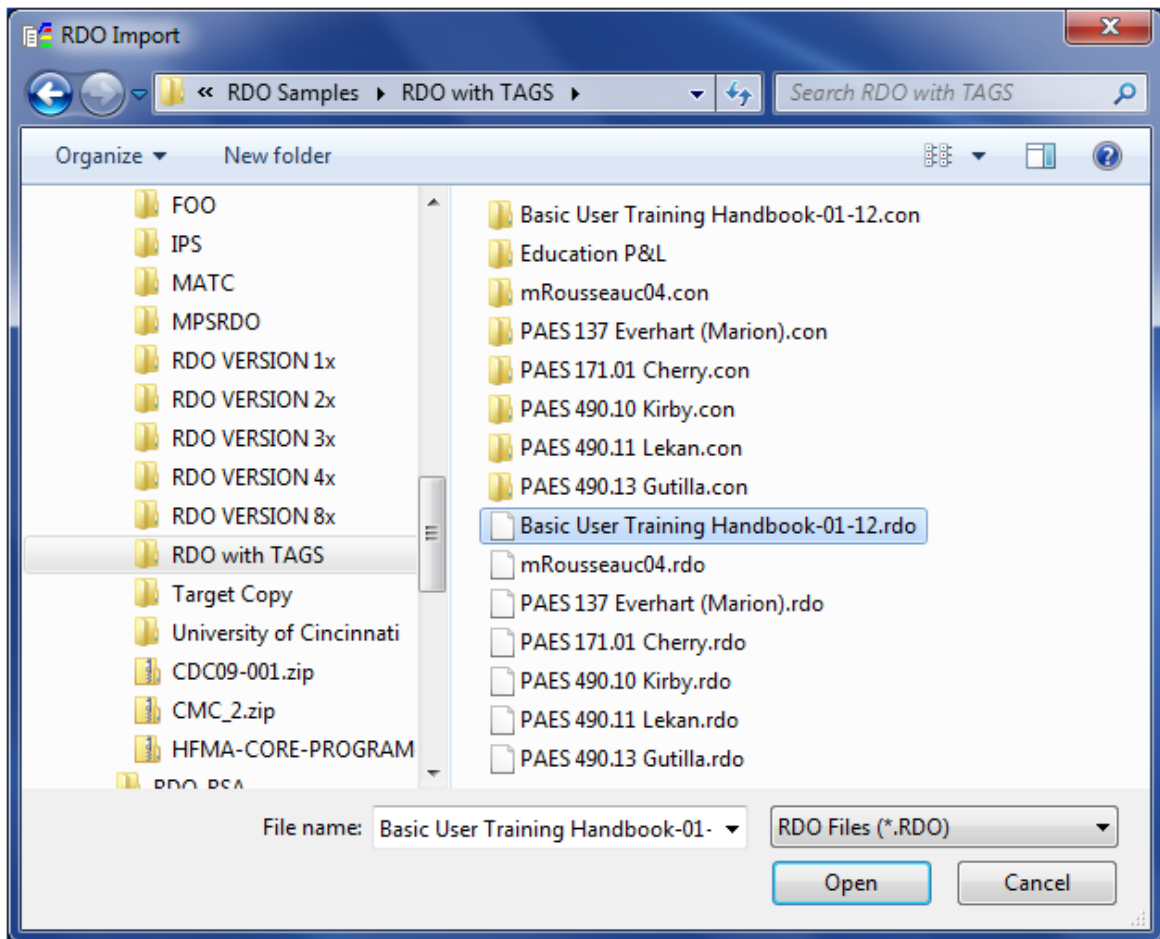

Figure 2: Selecting an RDO to import
3. Use the **RDO Import** dialog (Figure 2) to browse and select one or more of the RDO files to be imported. Click the **Open** button to start the import process.